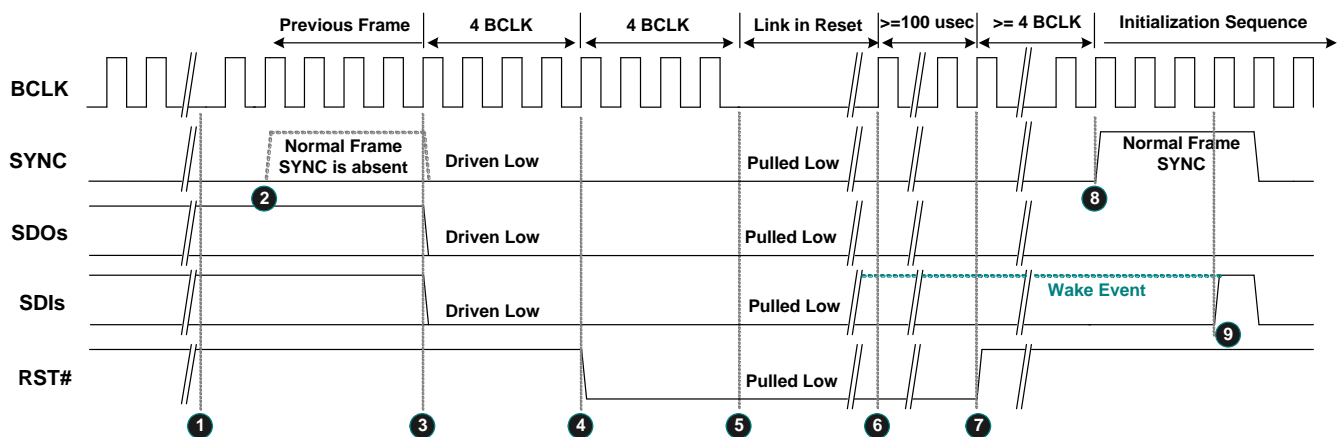

Figure 12. Link Reset Timing
3. Software initiates power management sequences. Figure 12, shows the 'Link Reset' timing including the 'Enter' sequence (❶~❺) and 'Exit' sequence (❻~❾)